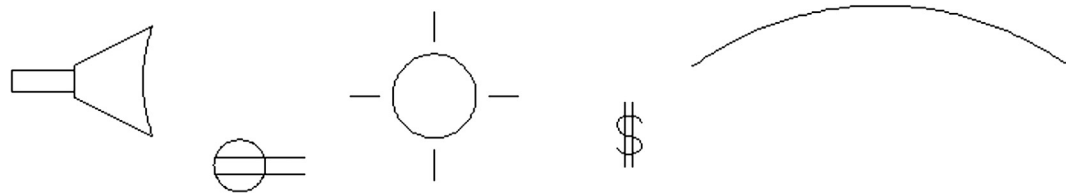

FIGURE 14.45
Step 1. You need the following layers (with suggested colors) for the electrical pieces. The pieces are monochrome in Figures 14.45 and 14.46.
Step 2. Create the electrical symbols as shown in Figure 14.45. Make sure the layers and colors are appropriate. Finally, make a block out of each symbol, so you can just copy and rotate them into position. With switches and outlets, there are numerous types (dimmer, three-way, duplex outlet, GFI, etc.), so this only scratches the surface.